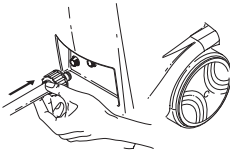

Figure 7
6. Connect the high pressure hose to the water outlet on the unit. The water outlet is marked OUT. See Figure 7.